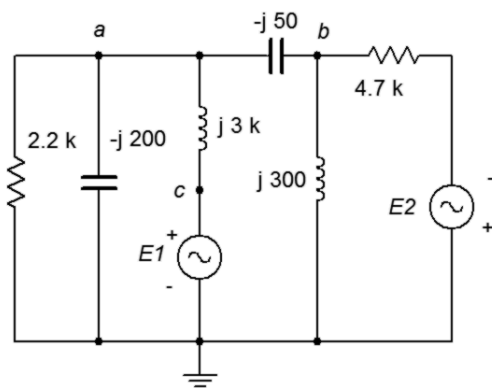

Figure 6.8
15. Use mesh analysis to find the current through the $j300\ \Omega$ inductor in Figure 6.8. $E1 = 1\angle 0^\circ$, $E2 = 10\angle 90^\circ$.
16. Given the circuit in Figure 6.8, use mesh analysis to determine v_a . $E1 = 100\angle 0^\circ$, $E2 = 90\angle 0^\circ$.